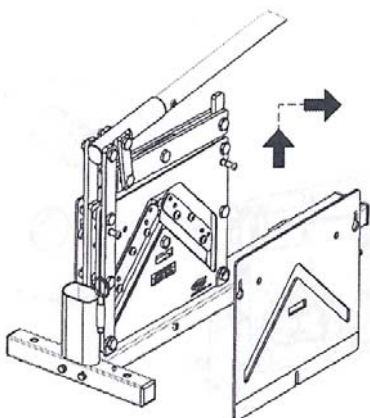

Figure 11
- 1) Place the EBC-100 onto a clean, flat and dry surface and remove the Safety Pin. Loosen the 3 screws without removing them and lift the Safety Guard up and the out. See Figure 11.